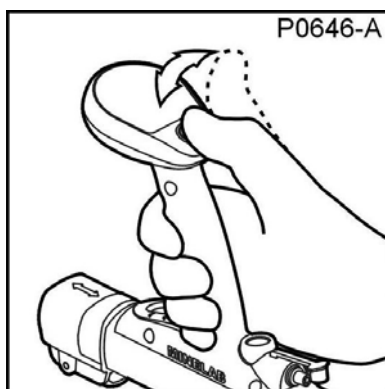

Figure 5: Audio Reset
- Once the Threshold Tone has increased in volume, press and immediately release the green ground balance button. (Figure 5)